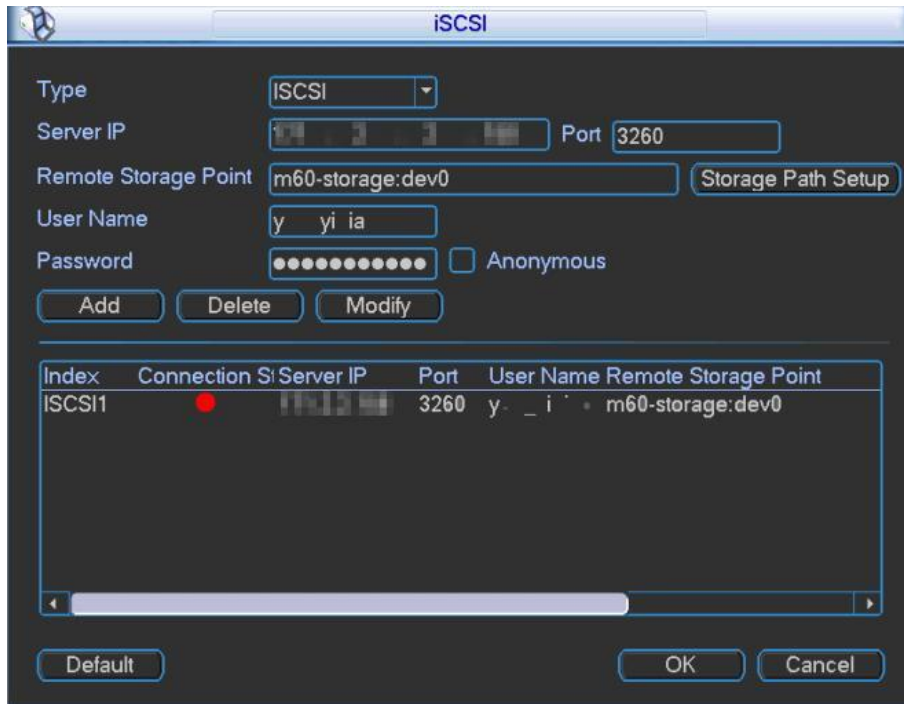

Figure 3-50
Step 6 Click "OK" to complete configuration. The list displays the added iSCSI server, as shown in Figure 3-50.